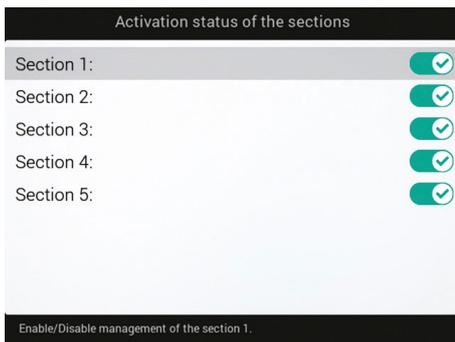

Fig. 63
- Repeat the setup for each section (Fig. 63), by disabling the disconnected outputs.